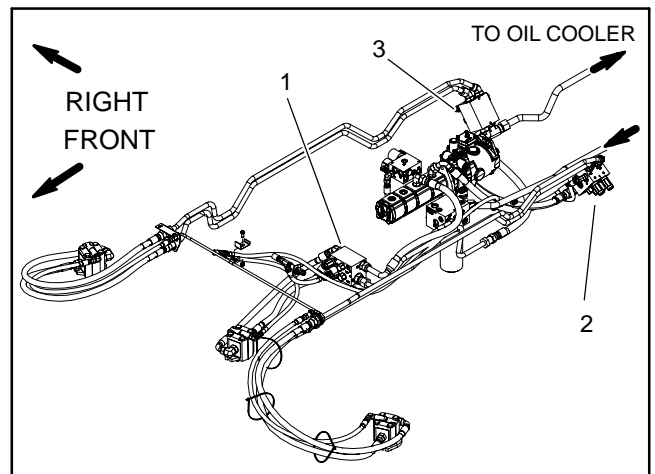

Figure 34
3. Locate deck manifold to be tested (Fig. 34). Disconnect hydraulic hose at deck manifold port (M1).